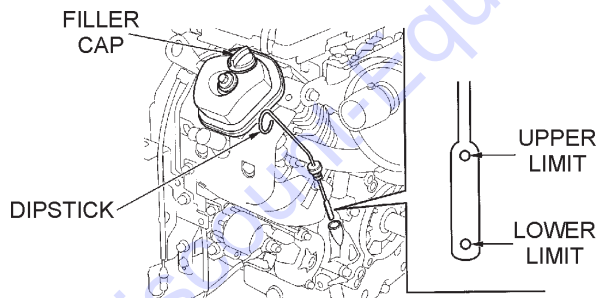

Figure 7. Engine Oil Dipstick
- Remove the dipstick from its holder as shown in Figure 7 and wipe clean.
- If the oil level is low (Figure 7), fill to the correct operating level with the recommended oil type as listed in Table 3. See Table 2 for engine oil capacity.